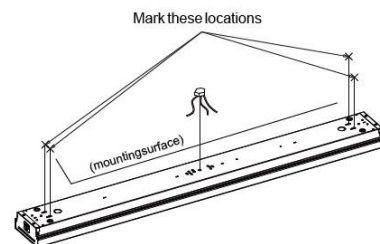

Figure 8
2. Align hole with the supply wire location on the mounting location with one hand while marking the location of the four keyhole slots at each end of the housing. (Figure 8)